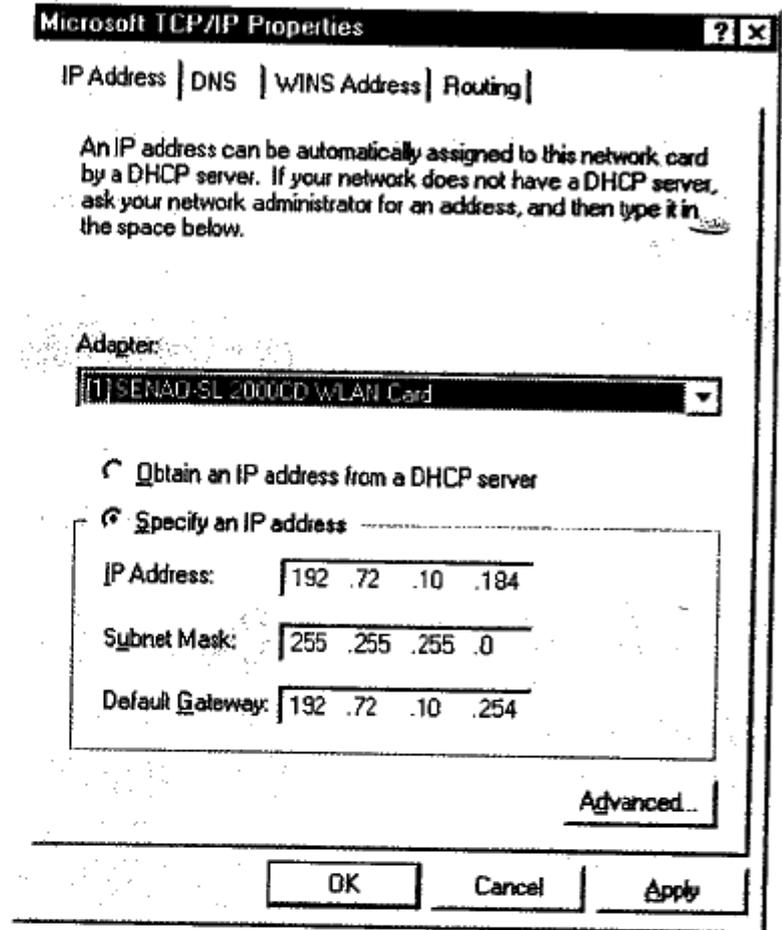

Figure 3-30
- Click "Close" to open the "Microsoft TCP/IP Properties" window. Windows NT will ask for the IP address assignment method. Select "Obtain an IP address from a DHCP server" or "Specify an IP address" as shown in Figure 3-30.